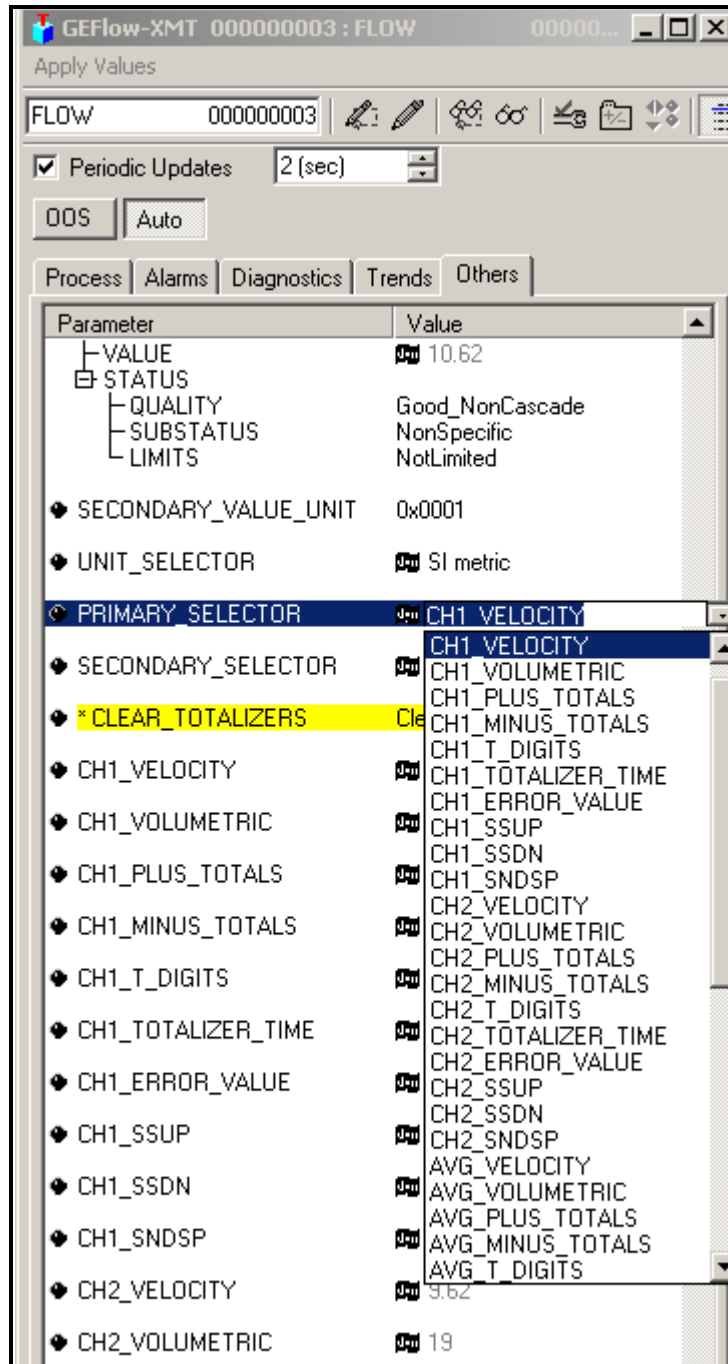

Figure 41: Primary Selector Drop Down List
2. Select the **Others** tab and open the drop down list for the PRIMARY\_SELECTOR and SECONDARY\_SELECTOR (refer to Figure 41 on page 115).
3. Choose the unit from the list (see Figure 41 on page 115).